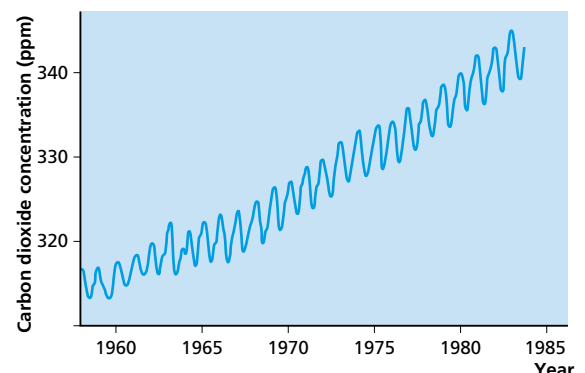

Figure 2 Levels of atmospheric carbon dioxide measured at Mauna Loa, Hawaii.
The fact that carbon dioxide levels are increasing is not in doubt. Carbon dioxide levels measured at the top of a mountain in Hawaii show a steady rise each year (Figure 2). The saw-tooth shape of the graph indicates an annual decrease due to carbon dioxide removal by **photosynthesis** in the growing season. However, the overall trend is upwards. Most scientists agree that increasing carbon dioxide in the atmosphere is causing **global warming**. Global temperatures have risen by 0.3–0.6°C since 1860 (and the Industrial Revolution), while the mean sea level has risen by 10–25 cm. It is hard to know what would have happened if all the carbon dioxide had not been released, but the United Nations (UN) believes that the changes observed are not due to natural variations.
In his book *Principles of Chemistry*, published in 1869, he had expanded the list to cover many more elements, as shown in Figure 2. Note that he was not afraid to assign masses to elements which he was certain existed but which had not been discovered. Indeed he was so confident about his table that he predicted the properties of ten unknown elements — and was later proved correct in eight cases. It was the predictability of the table that won him international renown.